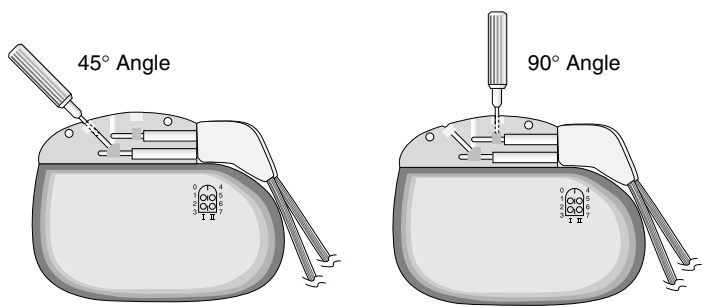

Figure 15. Tighten setscrew in rubber grommet.
- Using the hex wrench included in the package, tighten each setscrew clockwise (Figure 15) until it touches the extension connector pin—continue tightening for a **maximum of 1/4 turn only**.
Note: In the Synergy Model 7427 and Synergy Versitrel Model 7427V Neurostimulators, four setscrews are located on the top of the connector block, two for each plug. Two setscrews are oriented at a 90° angle and two are oriented at a 45° angle. When tightening the setscrews, the hex wrench must be oriented at the same angle as the setscrews (Figure 15).